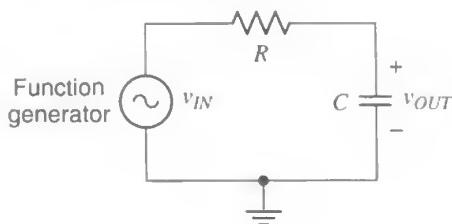
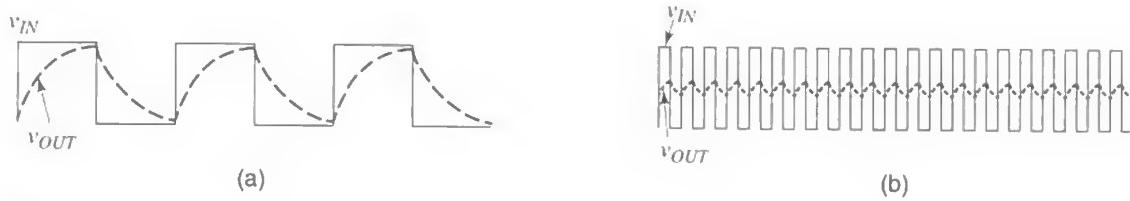
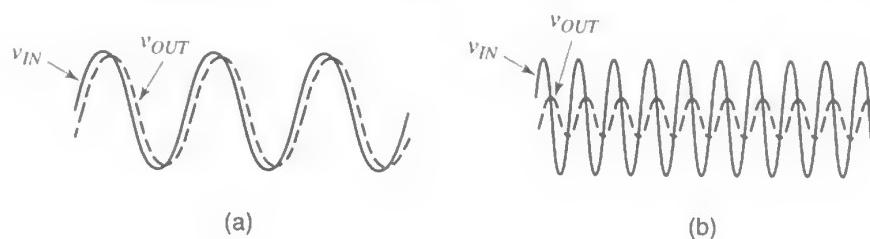
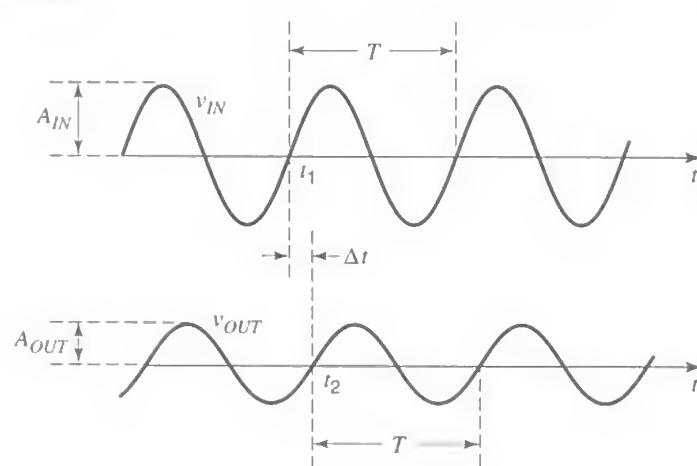

Fig. 1
Fig. 2
Fig. 3
Fig. 4
Consider the circuit of Fig. 1. In Experiment 6, you saw that if a square wave with a large period is applied to its input, the capacitor has the time to charge or discharge almost fully during each half interval, as shown in Fig. 2(a). The output then follows the input rather closely. If, however, the period of the input is made small, the output capacitor does not have time to charge or discharge fully, and the situation illustrated in Fig. 2(b) is observed. Now the output cannot follow the large excursions of the input, and its excursions become small.
These observations do not hold only for square wave inputs. Other shapes, such as triangle or sinusoidal, show qualitatively the same behavior. This is illustrated for a sinusoidal input in Fig. 3. As seen, low input frequencies allow the output to virtually follow the input, as seen in Fig. 3(a). We say that the low-frequency input signal “passes” to the output. On the other hand, when the input frequency is high, the output cannot follow the input, as shown in Fig. 3(b), and the output amplitude becomes small. The input signal, to a significant degree, is rejected, or “does not pass,” to the output. For these reasons, the circuit is said to be a *low-pass filter*. Many different circuits are low-pass filters, but we will concentrate on the simple one in Fig. 1 and study it in detail.
Because at very low frequencies the capacitor voltage is almost equal to the input voltage, as shown in Fig. 3(a), we say that “at very low frequencies, the capacitor in Fig. 1 acts almost as an open circuit.” Indeed, if the capacitor in Fig. 1 were replaced by an open circuit, the resistor current would be zero, and thus the voltage across the resistor would also be zero: the output voltage would then be equal to the input voltage. At high frequencies, on the other hand, the capacitor voltage is small, as shown in Fig. 3(b), and if the frequency is made very high the capacitor voltage is almost zero; because of this, we say that “at very high frequencies, the capacitor in Fig. 1 acts almost as a short circuit.” Indeed, if the capacitor in Fig. 1 were replaced by a short circuit, the output voltage would be zero.
Consider a linear circuit and assume that, at a given frequency, the input and output signals are as shown in Fig. 4. The amplitude of the input is  $A_{IN}$ , and that of the output is  $A_{OUT}$ . To indicate to what extent the input signal has passed to the output, we define the voltage gain magnitude,  $G$ :
The value of  $G$  depends on the circuit and the input frequency. For an amplifier, it can be much larger than 1. For the circuit of Fig. 1, it cannot exceed 1.
In Fig. 1, because the RC circuit shows some “inertia” (it takes time for the capacitor to charge or discharge before the output can rise or fall significantly), the various features of the sinusoidal output waveform (peaks, valleys, and zero crossings) appear to occur somewhat later than the corresponding features of the input waveform. We say that the output signal is *phase-shifted* with respect to the input signal. The phase difference between the output and the input can be determined with the help of Fig. 4. With the period  $T$  corresponding to 360 degrees, the phase difference between the two waveforms will be  $[(\Delta t)/T] \times 360$  degrees, where  $\Delta t = t_2 - t_1$ , as shown in the figure. This is the phase by which the top waveform leads (is ahead of) the bottom one or, identically, the phase by which the bottom waveform lags (is behind) the top one. It is common to quote instead the phase by which the bottom waveform *leads* the top one; this is the *negative* of the above quantity and will be denoted by  $\phi$ . Thus,
The values of  $G$  and  $\phi$  depend on how fast the signal is varying in relation to the circuit's "speed." Consider, for example, the circuit of Fig. 1. We have seen in Experiment 6 that a measure of the circuit's "slowness" is its time constant,  $\tau = RC$ . Thus, a measure of the circuit's speed is the inverse,  $1/\tau = 1/(RC)$ . It is common to consider how the circuit behaves when the input's angular frequency  $\omega$  (in rad/s) is equal to this measure. Since  $\omega = 2\pi f$ , where  $f$  is the frequency in Hz, we are interested in the behavior of the circuit at a critical frequency  $f_c$  for which  $2\pi f_c = 1/(RC)$ ; thus  $f_c$  is given by
1. Connect the circuit of Fig. 1, using  $R = 16 \text{ k}\Omega$  and  $C = 10 \text{ nF}$ . Set the input frequency at 1 kHz and its amplitude (peak value) at 2V. Monitor the input waveform on the scope's channel 1 and the output waveform on channel 2, with both channel inputs set at AC. Use  $\times 1$  probes. The sensitivity of the two channels (V/div) should be the same, and the variable sensitivity control for each should be in the calibrated position. The trigger source selector should be at channel 1, the trigger coupling at AC, and the trigger slope at positive. You should be able to obtain a display like that in Fig. 4. Carefully establish the 0 level for each waveform by using the ground setting for each scope input, and align this level with a main graticule horizontal line, using the vertical position control.
6. The phase shift between the output and the input,  $\phi$ , was defined under Background above. Measure this quantity, with the input frequency equal to the cutoff frequency  $f_c$  that you determined in step 3. To make this measurement easier, move one of the two waveforms vertically, so that its 0 level coincides with the 0 level of the other waveform (use the ground input mode on the scope to establish the 0 levels accurately). Then  $\Delta t$  can be easily estimated as the horizontal displacement between two zero crossings, as shown in Fig. 4.3 Is the phase shift at  $f_c$  approximately equal to the theoretically predicted value of  $-45$  degrees?